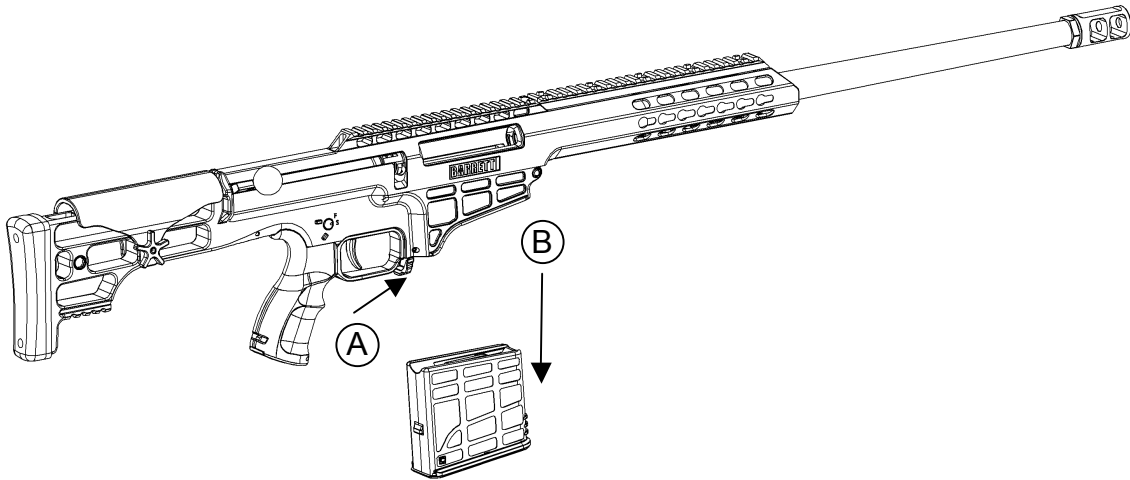

Figure 7.
2. Remove the magazine from the rifle by pressing the magazine catch and remove the magazine from the rifle. (Figure 7)